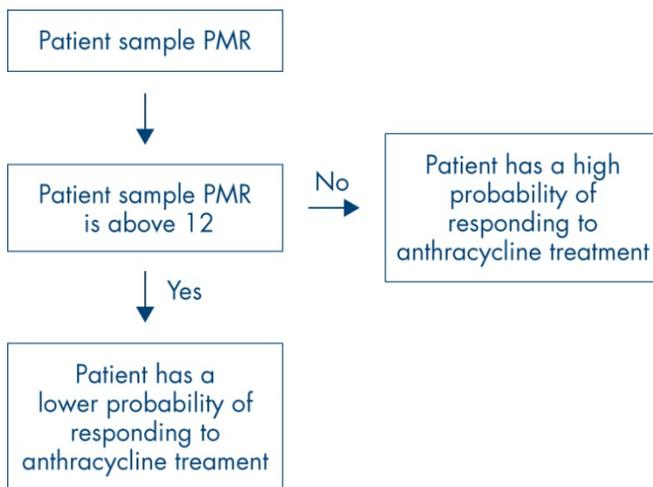

Figure 16. Interpretation of PMR results of patient samples for the *therascreen* PITX2 RGQ PCR Kit.
alternative treatment may be proposed, as the patient has a lower probability of responding to anthracycline-based chemotherapy (Figure 16).
* Interpretation of the test sample valid PMR result is explained previously (see Figure 16).